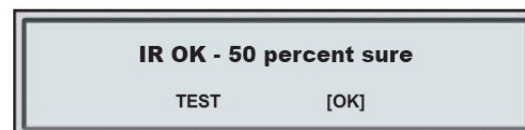

FIG. 31 IR OK – 50 percent sure
- **IR OK – 50 percent sure** - (1 command was received). Pressing **[OK]** takes user to next IR command to be learned (FIG. 31).